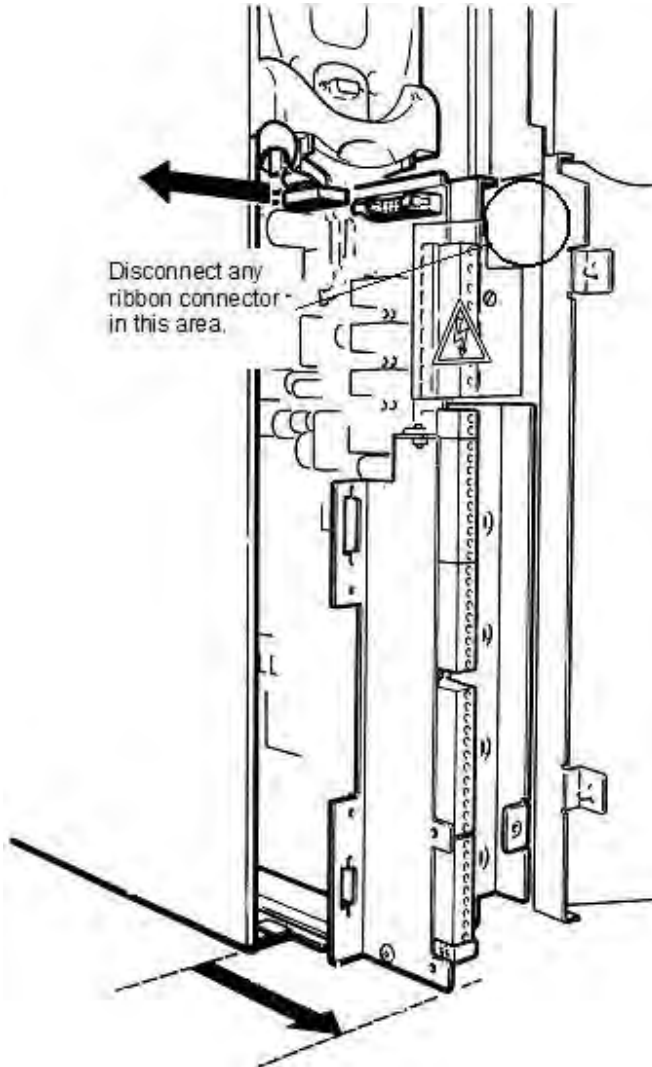

Figure 3-2. – Drive Module – removing the control board
- c) Slide the control board completely forward out of the drive, disconnecting any ribbon connectors located at the top of the board, (see Figure 3-2), and noting their positions for ease of re-connecting.